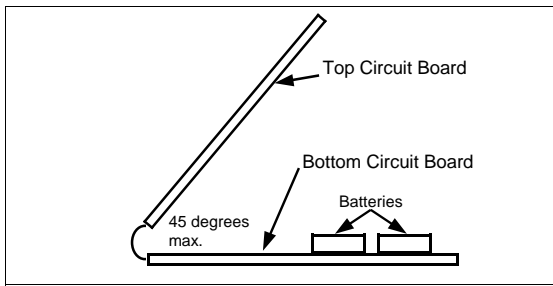

Figure 1: Side View - Lift Top Circuit Board
2. *Carefully* lift the top circuit board to allow removal of batteries from bottom circuit board. Lift the top circuit board away from the bottom circuit board **no more than 45 degrees** (see figures 1 and 2) to allow removal of batteries.